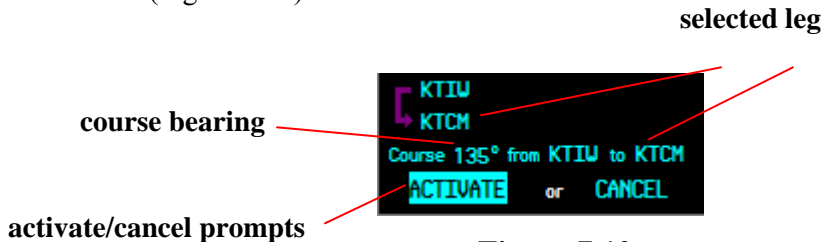

Figure 7.9
Further flight plan editing can be done from the active flight plan page via a popup menu window (Figure 7.9).
2. click on the MENU button to open the Menu window (Figure 7.9).